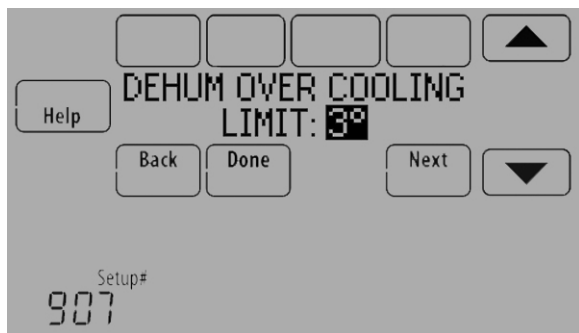

Fig. 193.
- Set the Overcooling Limit. See Fig. 193. Options: